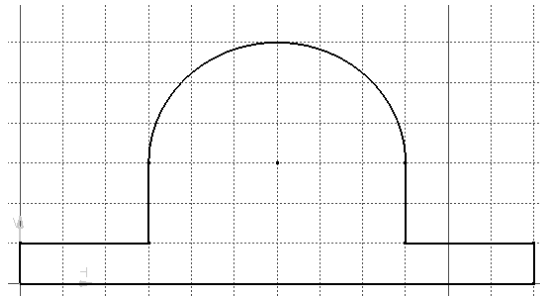

Figure 2-36 The sketch after drawing the outer loop
- Draw the sketch of the model using the **Profile** and **Circle** tools, refer to Figures 2-36 and 2-37.
The sketch after drawing the outer loop is shown in Figure 2-36. In this figure, the constraints are hidden for better visualization.